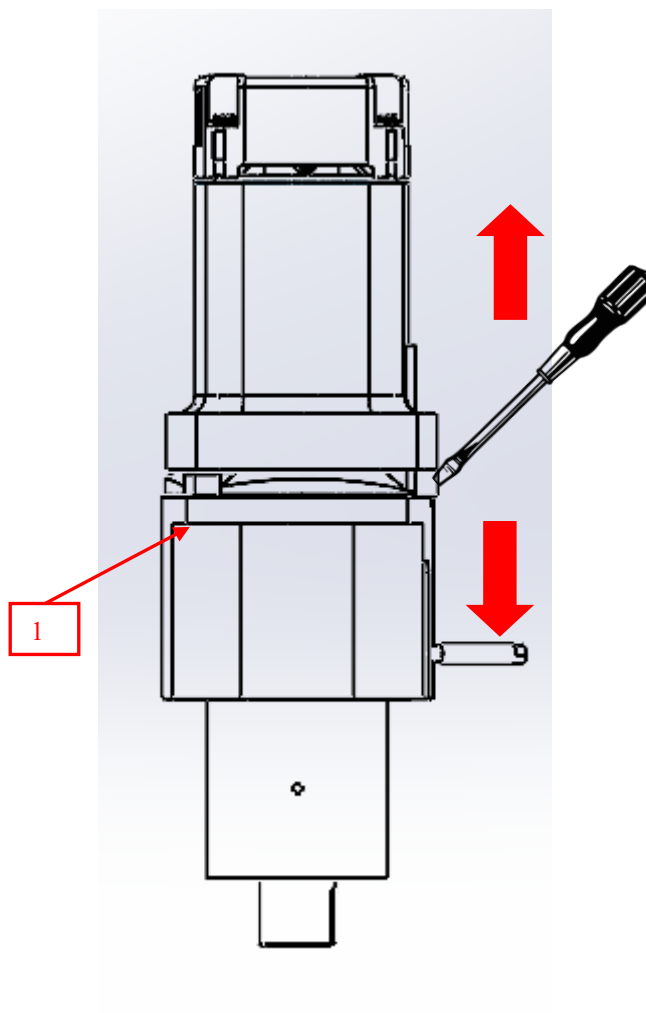

Figure 2.12
- 2.5.1 Place the motor in a vertical position and then unscrew the screws as shown in figure 2.12 – position 1;
- 2.5.2 Use a screwdriver to pry the two parts apart as shown in figure 2.12;